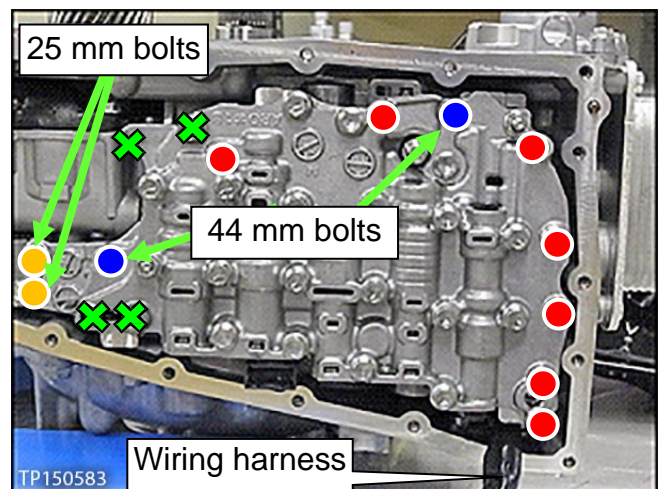

Figure 27
3. Install the Control Valve with nine (9) mounting bolts (Figure 27).
**IMPORTANT:** Leave Four (4) ✘ bolt holes blank at this step.